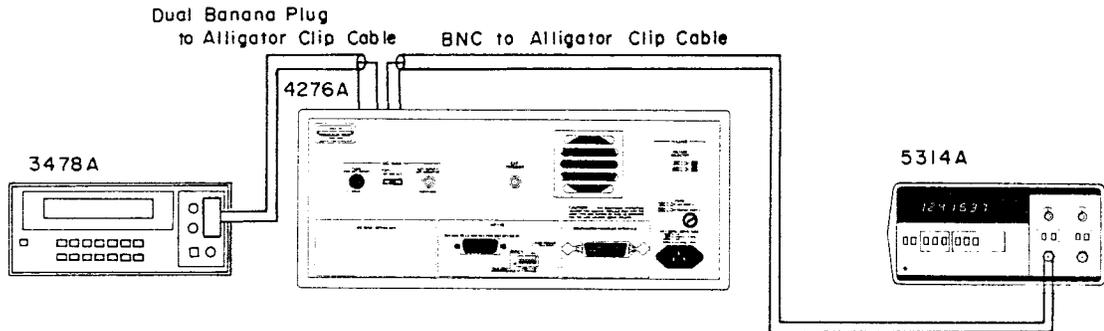

Figure 5-1. A4 Power Supply Adjustment Setup.
1. Connect the 3478A HI and LOW inputs to A4TP1 (+5V DIG) and A4TP2 (DIG GND), respectively, with the dual banana plug-to-alligator clip cable as shown in Figure 5-1.
7. Connect the 5314A to A4TP9 (DIG PWM) and A4TP10 (GND) with a BNC-to-alligator clip cable as shown in Figure 5-1.